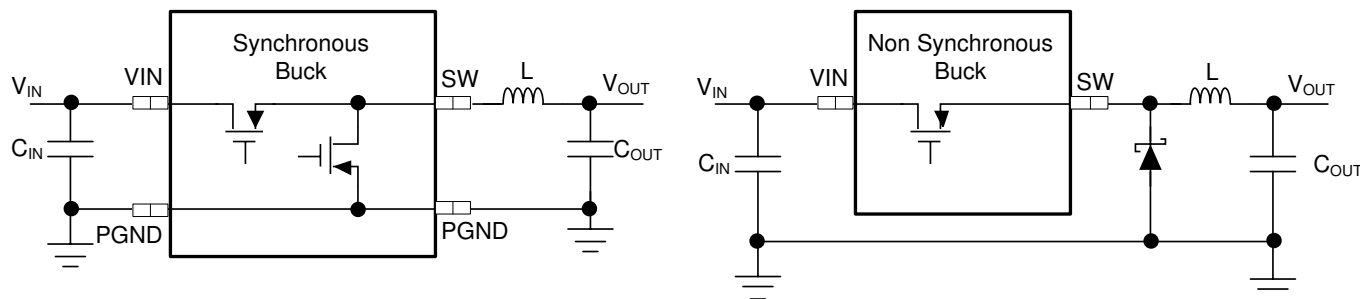

Figure 7-1. Simplified Synchronous vs Non-synchronous Buck Converters
The TPS7H4010-SEP is a synchronous buck converter with both power MOSFETs integrated in the device. Figure 7-1 shows a simplified schematic for synchronous and non-synchronous buck converters. The synchronous buck integrates both high-side (HS) and low-side (LS) power MOSFETs. The non-synchronous buck integrates HS MOSFET and works with a discrete power diode as LS rectifier.